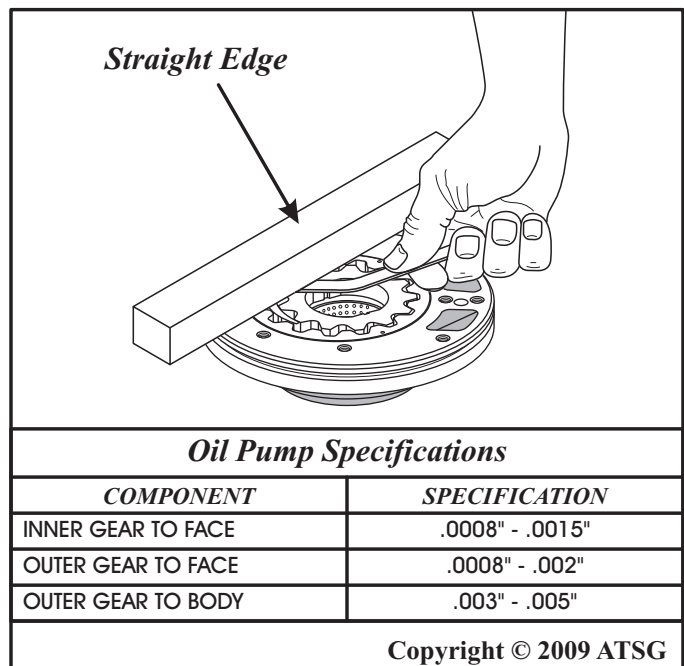

Figure 88
10. Measure the oil pump gear clearances using a feeler gauge and a straight edge, as shown in Figure 88.
Note: Oil pump clearance specifications are also shown in Figure 88.